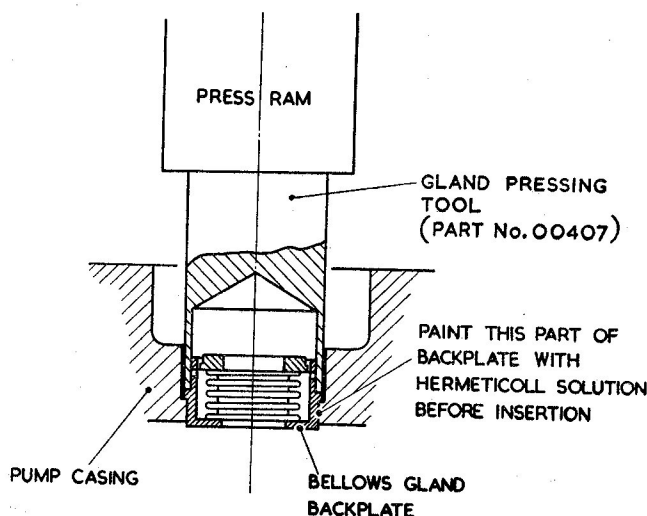

Fig. 4. Method of fitting new gland
15. At this stage, examine the gland for serviceability. The bronze sealing face, if in good condition, will have a smooth, polished appearance. Since the wear on this face is normally negligible over a working life of 500 hours, replacement of the gland will rarely be necessary. Where, however, the face is damaged or worn, a new gland must normally be fitted. Instructions for fitting a new gland, as well as temporary expedient measures, are given in A.P.4343, Vol. 6, Sect. 16, Chap. 1, App. 1. The special tool needed is shown in fig. 4.